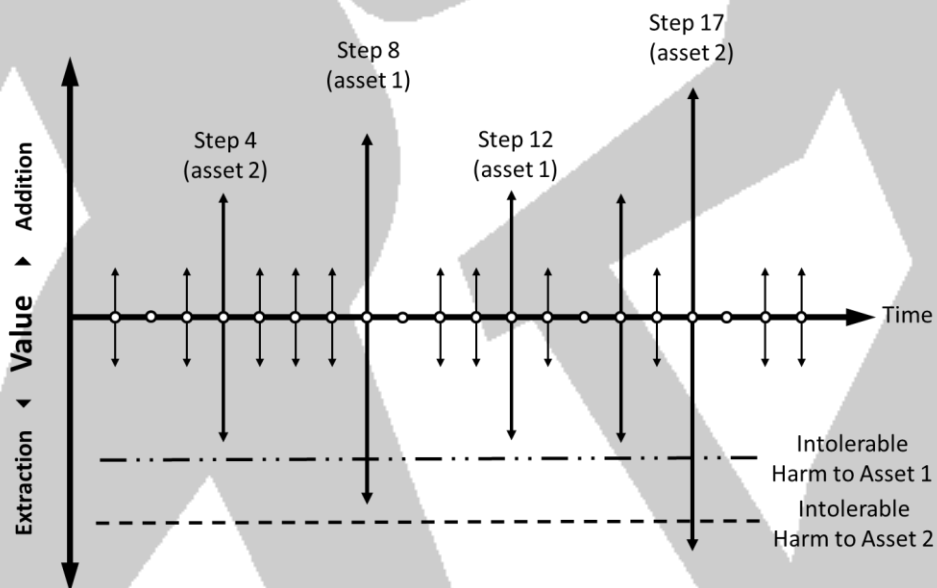

Figure 1-1 Value added vs. value extracted (harm) during work. If an operation has the capacity to do work, it has the capacity to do harm.
Referring to Figure 1.1 below, work may involve interactions with several assets, in this case two. At least two assets are in play for every work activity: typically, the person doing the work from a personal safety perspective and the product of their work from a business perspective. Figure 1.1 illustrates that steps 8 and 12 involve interactions with asset one (1), and steps 4 and
For complicated operations, procedures prescribe a series of human actions organized in a preferred sequence to accomplish production and safety goals. But which actions require vigilance and heightened attention—which ones absolutely must go right? Most human actions in an operation can be described as non-critical. At those times it may be acceptable to err on the side of efficiency, considering nominal human reliability. Good enough (99.9 percent) is good enough when nothing is at stake. Recall Figure 1.1 and Jill's 100-step task thought experiment. For low-risk operations, we believe it is acceptable to speed things up to reduce costs.